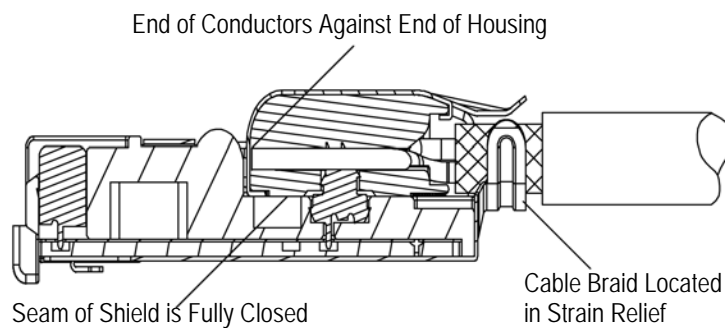

Figure 7
- 1) The cable braid must be located in the strain relief (which must not be deformed). Refer to Figure 7.